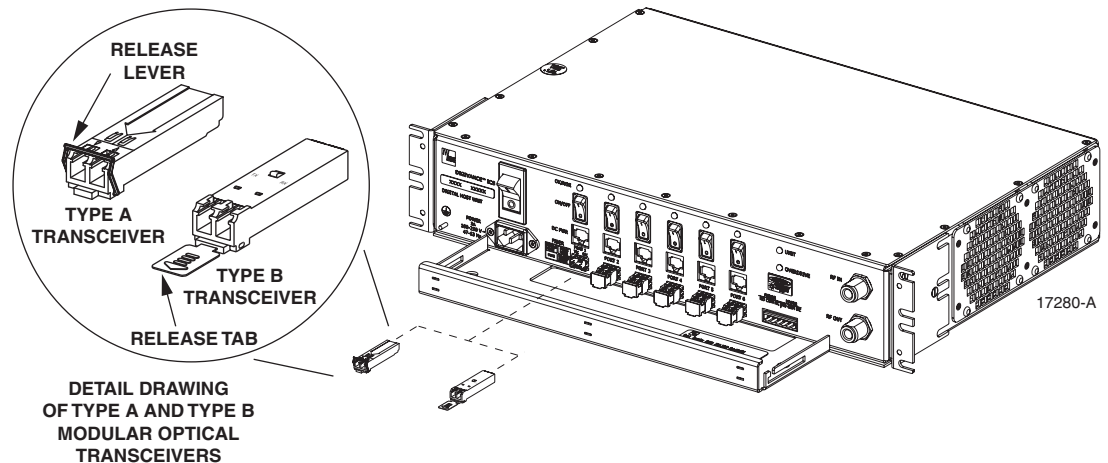

Figure 33. DHU or DEU Optical Transceiver Installation
- 8. Remove the optical transceiver from the anti-static packaging and orient for installation as shown in Figure 33.
- ▶ **Note:** Two types of optical transceivers, type A and type B, are available. Both types provide the same functionality. On the type A optical transceiver, the release lever (see Figure 33) must be closed for installation.